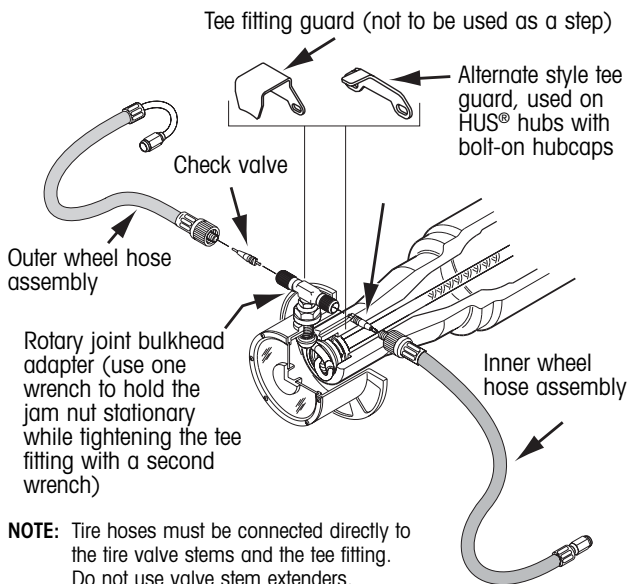

Figure 46. Tire removal and installation
1. Turn vehicle off and disconnect the tire hose(s) at the tee on the hubcap (figure 46).
4. On dual-wheel configurations, observe and record the orientation of the wheel to the hub before removal of the wheel (clock A, B, or C. Refer to figure 46).
5. Remove and reinstall the wheel. Take care not to damage the hubcap fitting. Make sure the wheel is properly oriented to the hub as indicated in figure 46.